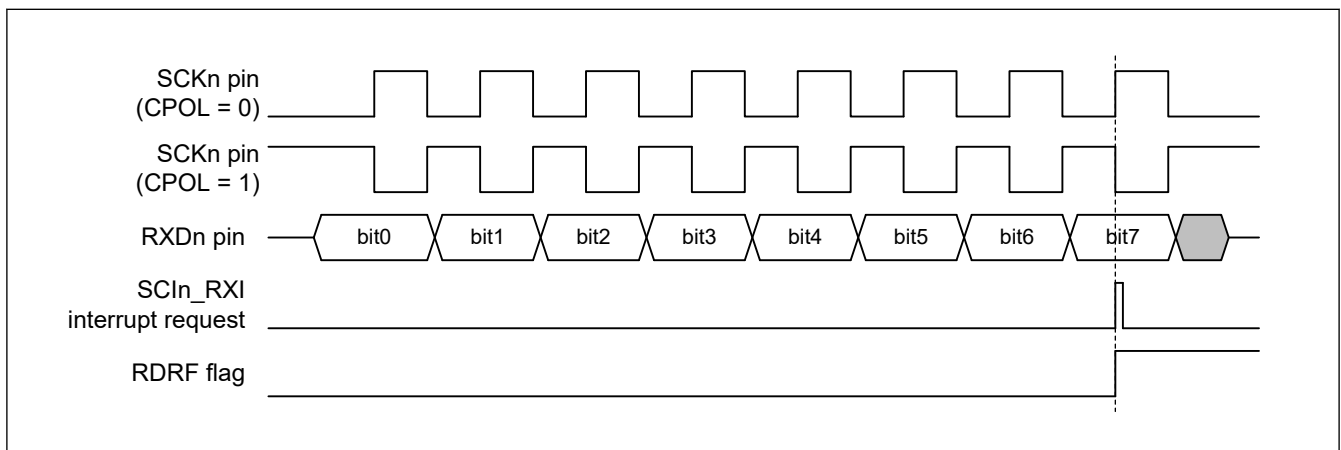

Figure 39.123 Timing of SCIn_RXI interrupt in simple SPI mode with clock delay
- For the clock delay setting (CCR3.CPHA bit is 0), the receive data full interrupt (SCIn_RXI) is generated before the final clock edge on the SCKn pin as indicated in Figure 39.123. If the TE and RE bits in the CCR0 register become 0 before the final edge of the clock signal on the SCKn pin, the SCKn pin is placed in the high-impedance state, so the width of the last clock pulse of the transfer clock is shortened. Additionally, an SCIn_RXI interrupt might lead to the input signal on the SSn pin of a connected slave going to the high level before the final edge of the clock signal on the SCKn pin, leading to incorrect operation of the slave.